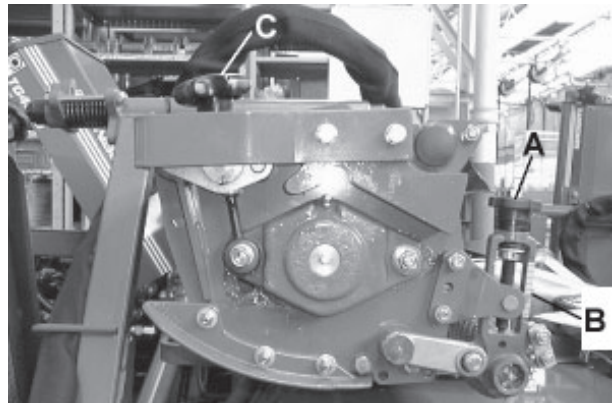

Fig.4
HEIGHT OF CUT (FIG.4 & 5)
1. Turn the adjuster handwheel or nut (A Fig.4) situated on handwheel clockwise (+) to increase the height of cut, or anticlockwise (-) to decrease the height of cut.